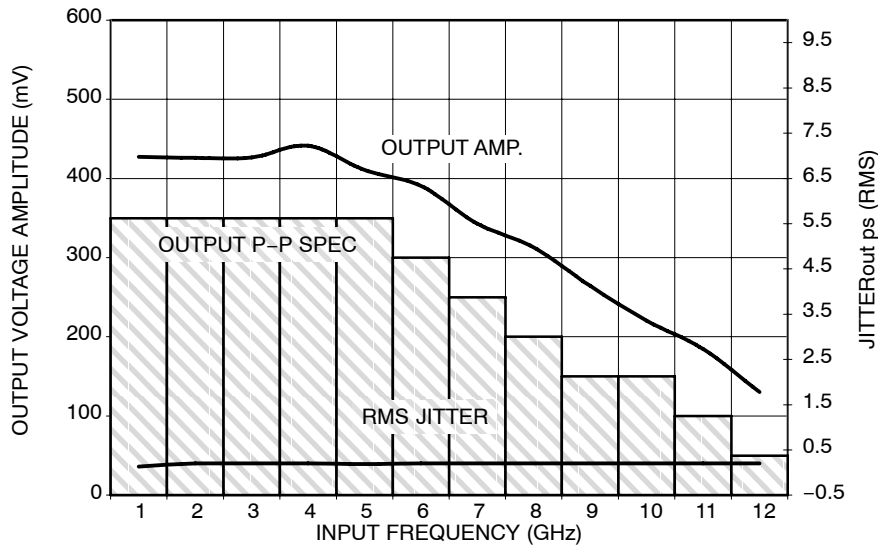

Figure 4. Output Voltage Amplitude (V_{OUTPP}) / RMS Jitter vs. Input Frequency (f_{in}) at Ambient Temperature (Typical)
22. Measured using a 500 mV source, 50% duty cycle clock source. All loading with $50\ \Omega$ to $V_{CC} - 2.0\text{ V}$. For minimum f_{max} value of 10.709 GHz, output amplitude is approximately 200 mV (as shown in Figure 4, where output P-P spec is shown as a minimum/guarantee of around 150 mV). Input edge rates 40 ps (20% – 80%).
27. Measured using a 500 mV source, 50% duty cycle clock source. All loading with $50\ \Omega$ to $V_{CC}-2.0\text{ V}$. For minimum f_{max} value of 10.5 GHz, output amplitude is approximately 200 mV (as shown in Figure 4, where output P-P spec is shown as a minimum/guarantee of around 150 mV). Input edge rates 40 ps (20% – 80%).